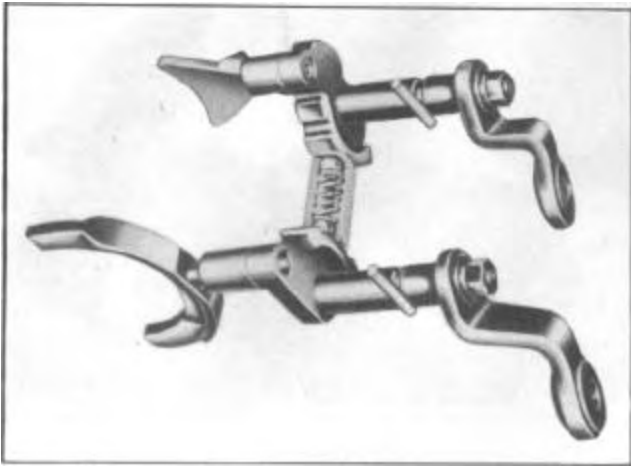

FIGURE 27
22. Remove nuts, washers and levers from shift shafts and take shafts out of case. When doing this, also remove the interlock sleeve, detent balls, spring and pin, Figure 27.